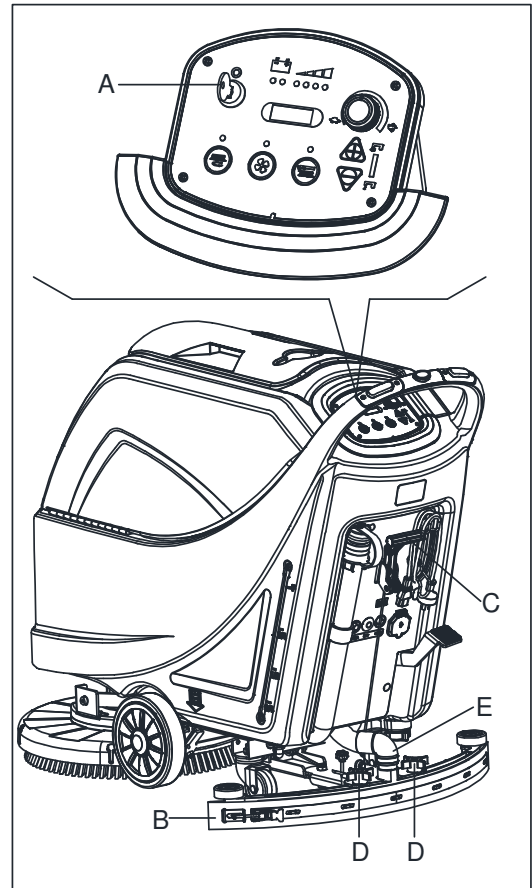
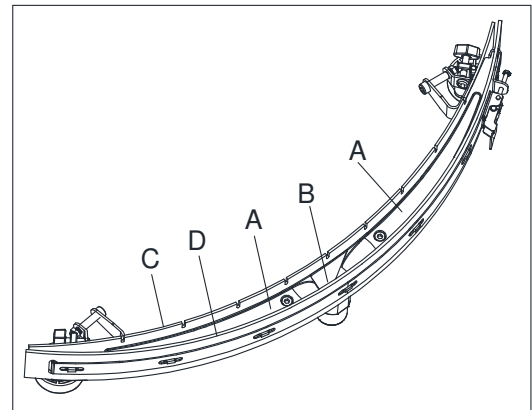

Figure 17
Figure 18
2. Turn the ignition key (A, Figure17) to "0".
3. Lower the squeegee (B) with the lever (C).
4. Loosen the knobs (D) and remove the squeegee (B).
5. Disconnect the vacuum hose (E) from the squeegee.
6. Clean the steel or the aluminum squeegee (Figure18). Clean the compartments (A) and the hole (B) especially. Check the front blade (C) and the rear blade (D) for integrity, cuts and tears; if necessary replace them (see the procedure in the following paragraph).